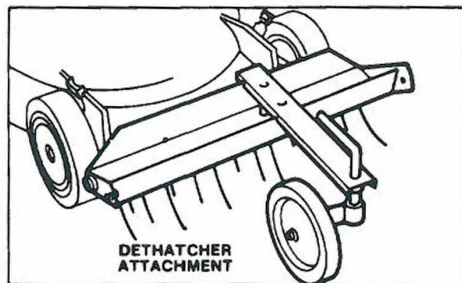

Figure 8
**REMOVE THATCH** — As spring tines on optional Toro Dethatcher scratch and vibrate through the grass, thatch is loosened and conveniently vacuumed into the bag (Fig. 8).